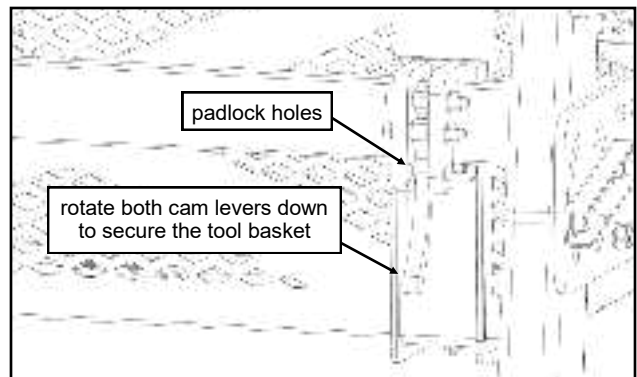

Fig. 3 (cam lever in the closed position)
3. To secure the tool basket to the Tool Bar, rotate both cam levers DOWN until they cam over. See fig. 3.
NOTE: For additional security, the tool basket can be locked to the Tool Bar by inserting a padlock through the holes in the mounting bracket where shown in fig. 3.